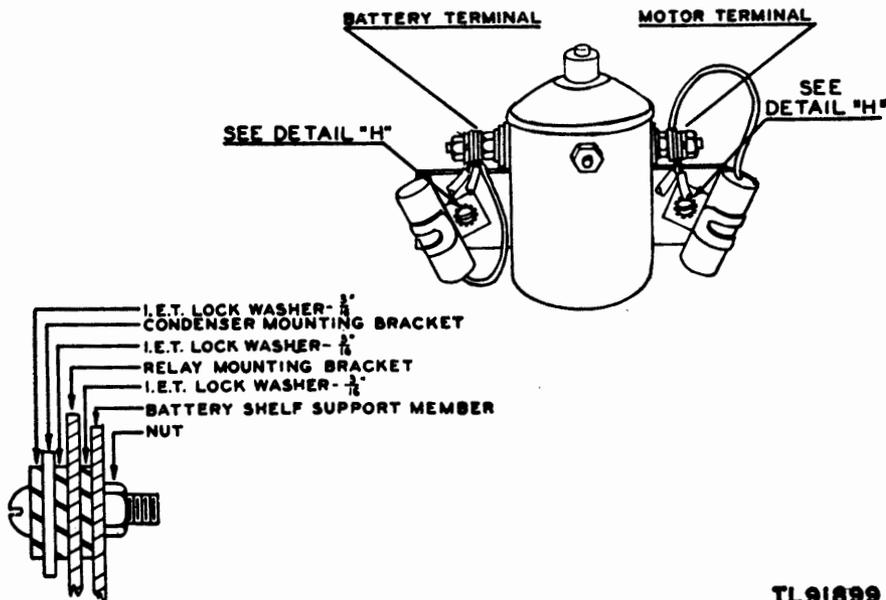

Figure 56. Solenoid starting switch, suppression details.
(8) A 0.1-mf capacitor is connected between each of the large terminals of the solenoid starting switch and a mounting screw of the starting switch. (See fig. 56.)